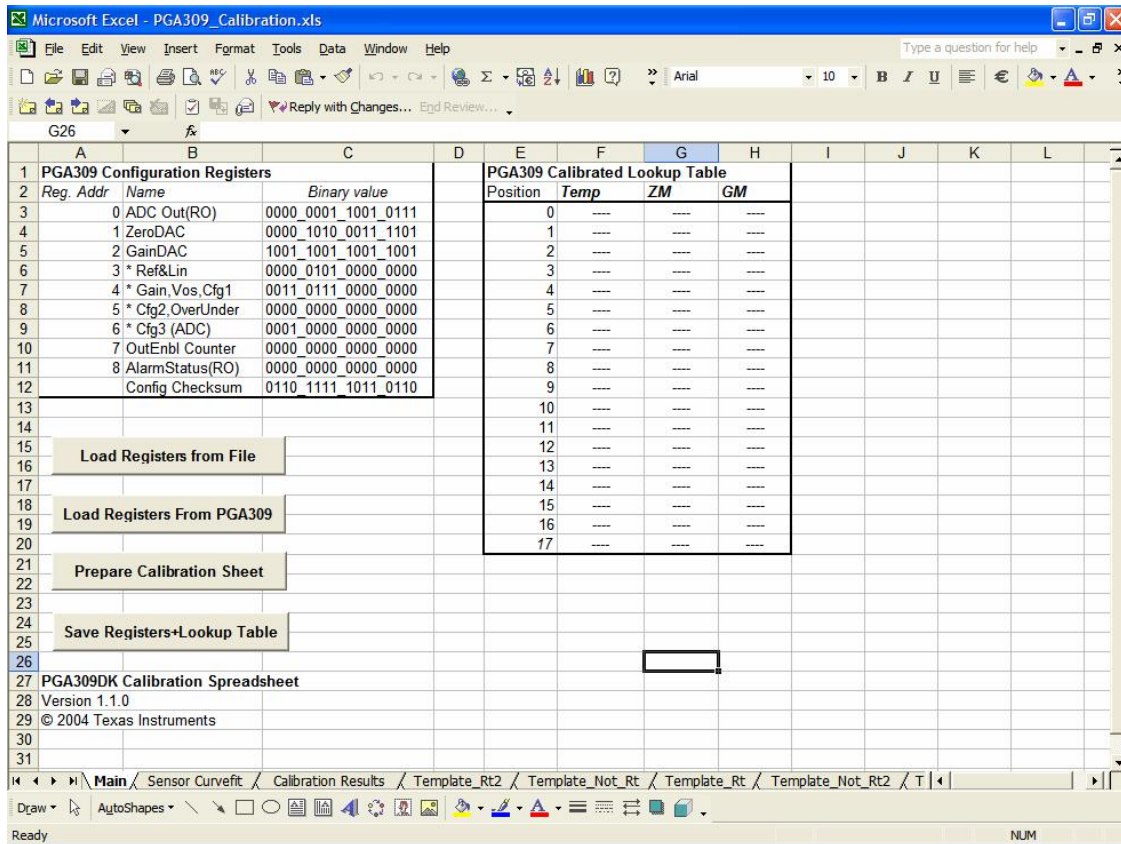

Figure 32: “Main” Worksheet
1) The “Main” Worksheet is shown in Figure 32. It contains the current values of the PGA309 register table, the lookup table and the control buttons. The buttons have the following functions: